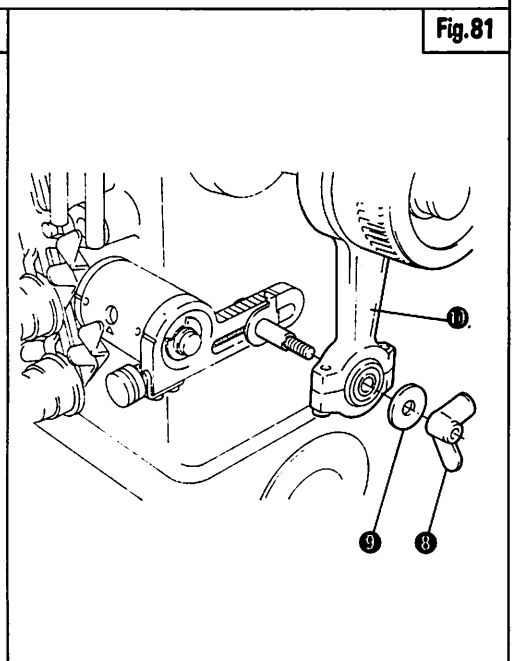

Fig. 81
For the machine equipped with the metering device, refer to Fig.81. Remove Nut ⑧ and Washer ⑨. Draw out Handwheel ④ with Connection ⑩ fitted.